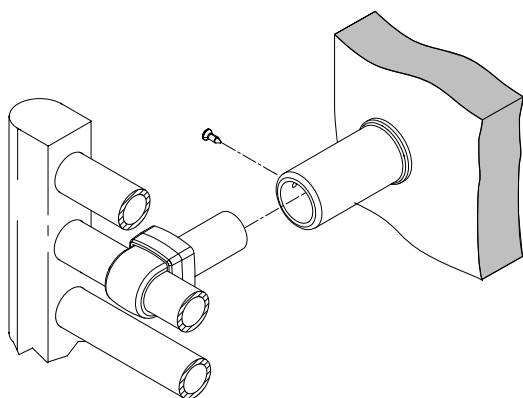

Fig. 6
4. Lift the towel rail complete with the bracket assemblies and align with the outer bracket sleeves which were previously fixed to the wall. Insert the inner sleeve brackets into the outer sleeve brackets and fix in place using the position locking screws (G) - see Fig. 6. once this step is complete the Mounting collar screws (C) can be tightened.